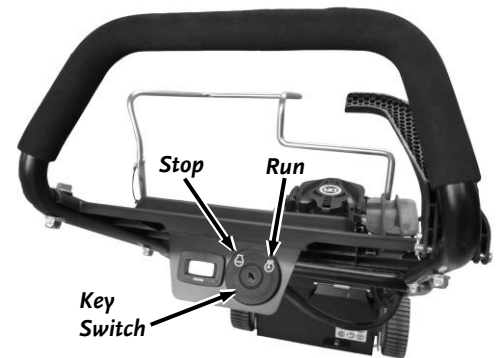

Figure 8
1. Turn the Key to the “RUN” position (**Figure 8**).